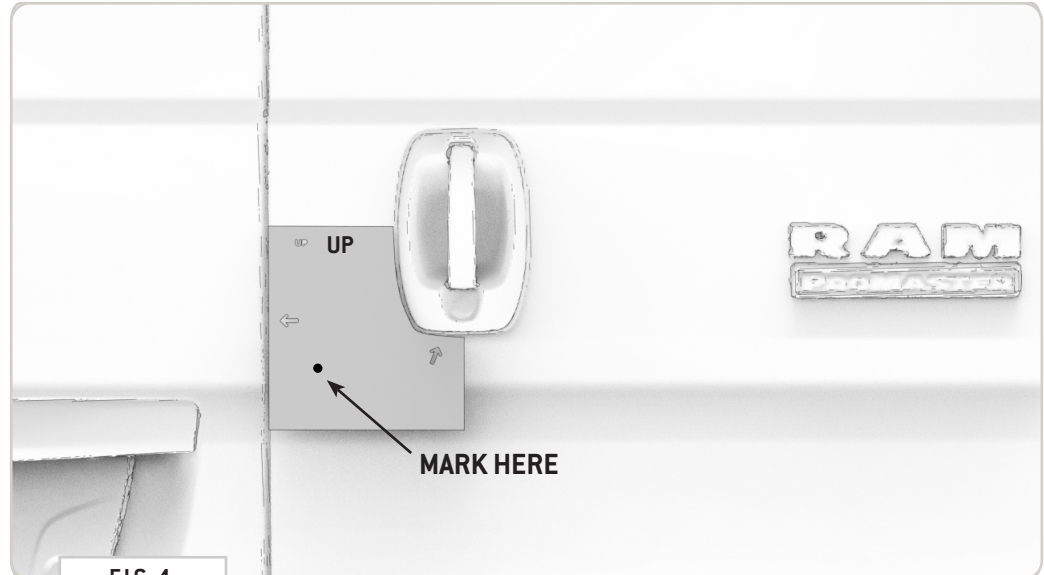

FIG 4
2.1 Marking Front Drill Location: Use the **Front Drill Template** to mark the outside of the rear passenger door. The arrow should align with the **Left Side Of The Door** and **Left Side Of The Grab Handle** as shown in FIG 4+5.